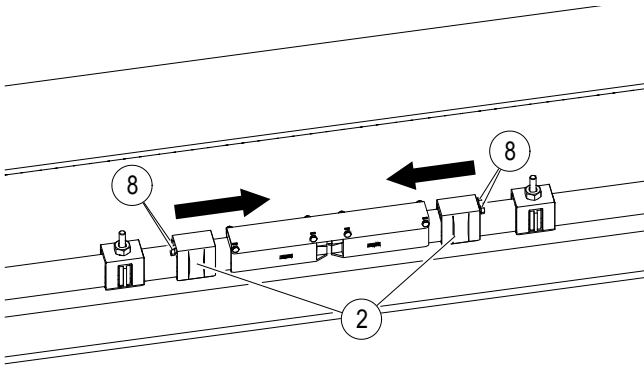
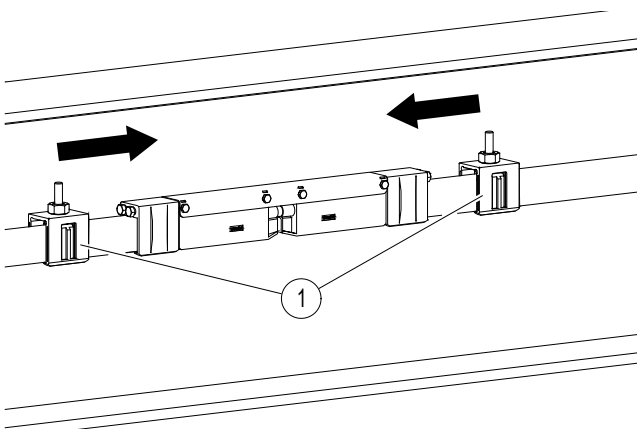

Fig. 96: Slide the anchor clamp to the air gap and tighten the side screws
Fig. 97: Slide the hanger clamp up to the screw on the side of the anchor clamp
- Slide the anchor clamp (Pos. 2) against the end caps and tighten the side screws of the anchor clamp (Pos. 8) (see Fig. 96). Slide the hanger clamp (Pos. 1) up to the screw head of the screw on the side of the anchor clamp (see Fig. 97).